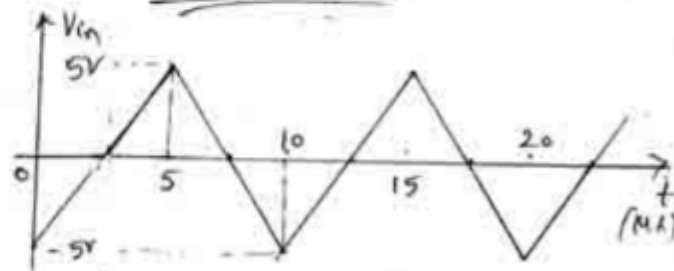

Fig 27
27) Determine the output voltage of a ideal differentiator for the input shown in fig 27.